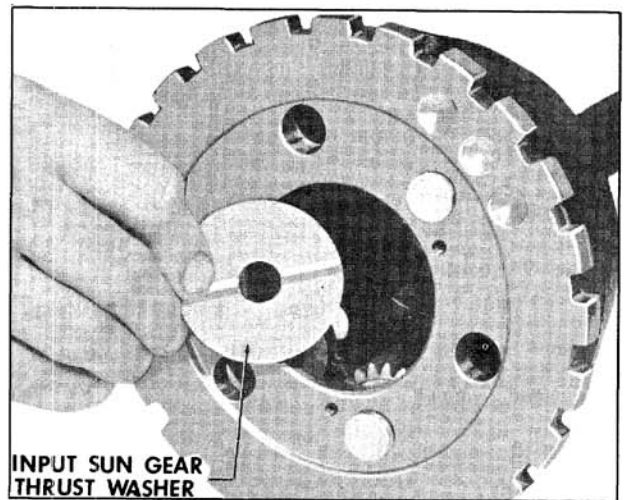

Fig. 6-459 Removing Front Thrust Washer
7. Remove input sun gear thrust washer. (Fig. 6-459)